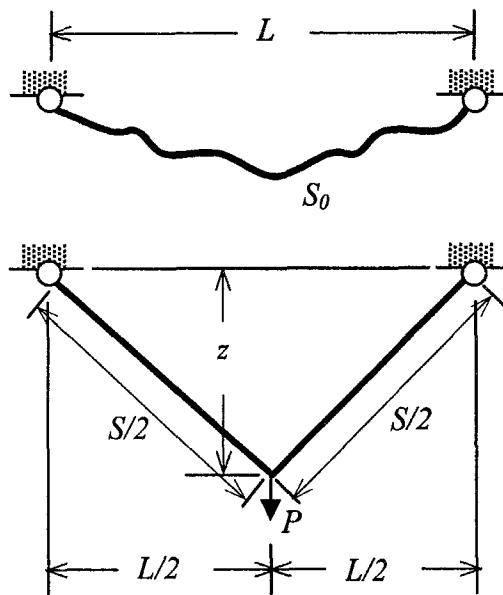

Figure 2
3. (a) Derive the relation between lateral load  $P$  and deflection  $z$  for the single cable as shown in Figure 2 where  $S_0$ : initial unstretched length,  $S$ : stretched length and  $L$ : span length.